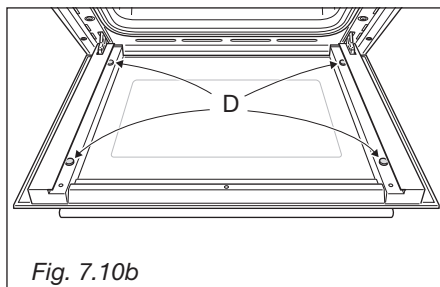

Fig. 7.10b
- Check that the four rubber pads are in place (**D** in Fig. 7.10b).